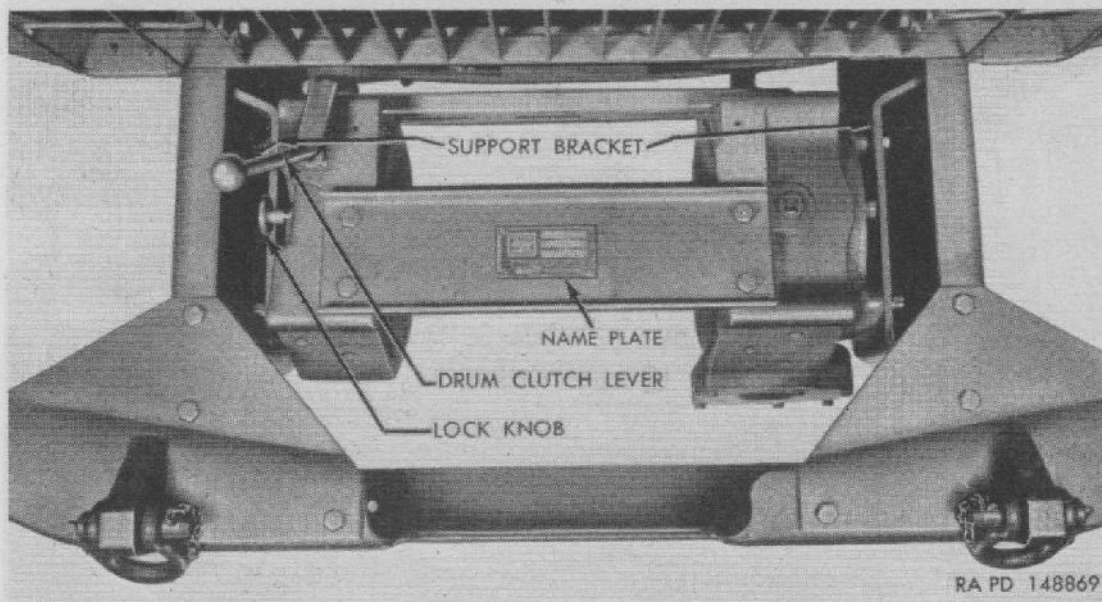

Figure 186. Winch installed (bumper in place).
a. **DESCRIPTION.** A worm-gearred, jaw-clutch, drum winch assembly is mounted at the front of truck on support brackets attached to frame-side-rail extensions (fig. 186). Winch is operated through drive shaft by power-take-off mounted on left side of transfer. The power-take-off is engaged and disengaged to operate winch by a manually operated lever in cab (par. 45). Winch is equipped with a drum clutch lever and drum lock knob (fig. 186). For operation of winch refer to chapter 2, section IV. An automatic safety brake on the worm shaft of the winch sustains the load while power-take-off lever is being positioned. Winch is also equipped with a drag brake which prevents drum from over-running the cable when cable is pulled from which drum.